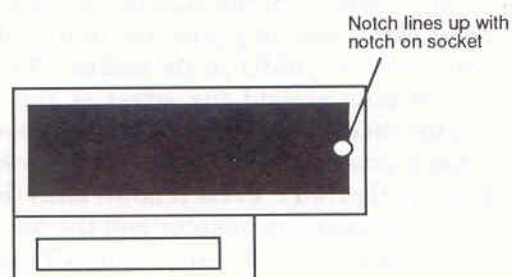

Figure 9 - Video Shifter on adaptor board
(3) Being very careful about static, pick the chip up (trying not to touch its legs) and place it into the socket of the XTRA-RAM's Video Shifter board, being very careful not to bend its legs and also being careful that all the legs are inserted correctly. Be sure to place the chip in the socket with the notches and cutouts as shown in figure 9.